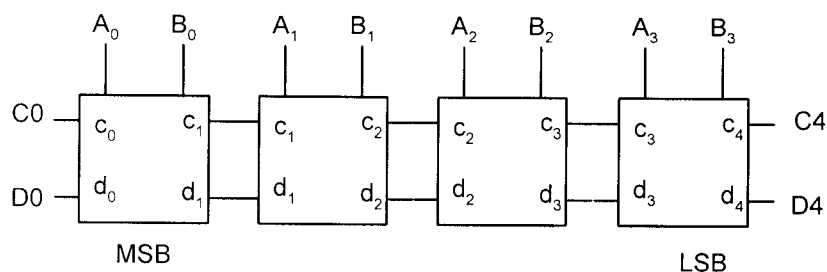

Figure 5.2
c) Four such cells can be cascaded to form a 4-bit binary comparator as shown in Figure 5.2. To what values should input signals C0 and D0 be set in order for the comparator to operate correctly? How should the outputs C4 and D4 be interpreted. Note that A0 corresponds to the most significant bit and A3, the least significant bit, of the number A.